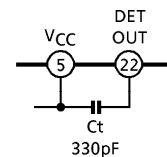

Fig.3 Countermeasures for AM tweets
It is necessary to connect the capacitor  $C_t$  (about  $330pF$ ) between  $V_{CC}$  terminal (pin⑤) and DET OUT (pin㉒), in case that AM tweets occurs by pattern layout. (Fig.3)